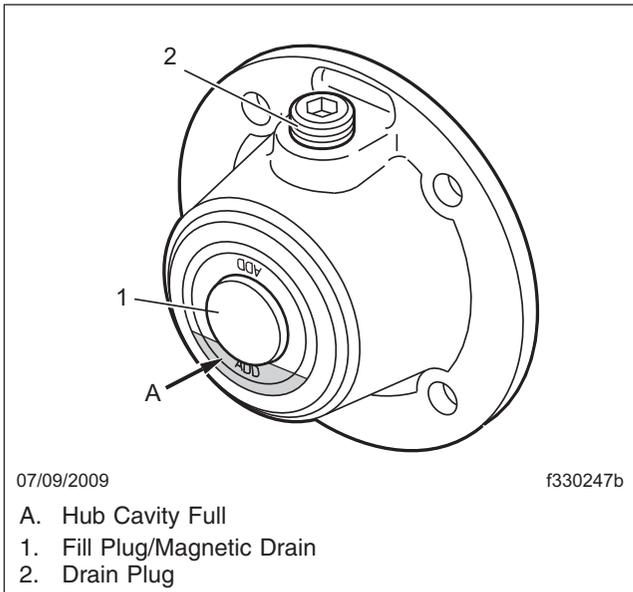

Fig. 10.13, Oil-Filled Hub Cap
2. Check the level of the wheel bearing lubricant in the hub cap at each end of the front axle. See Fig. 10.13.